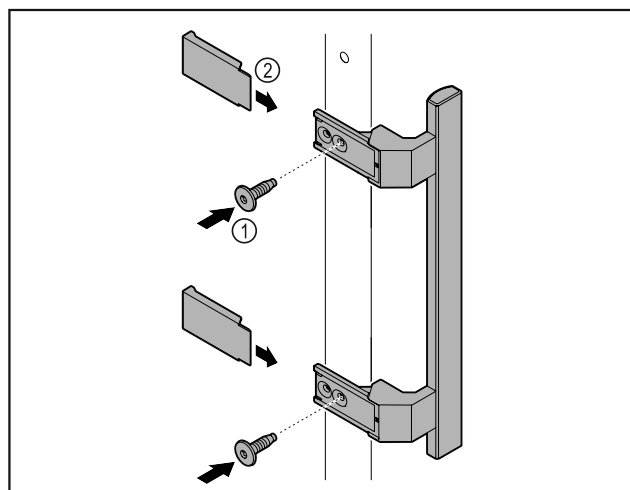

Fig. 47
- Attach handle from accessory kit to the door using the screws Fig. 47 (1) supplied.
- Put on cover Fig. 47 (2).